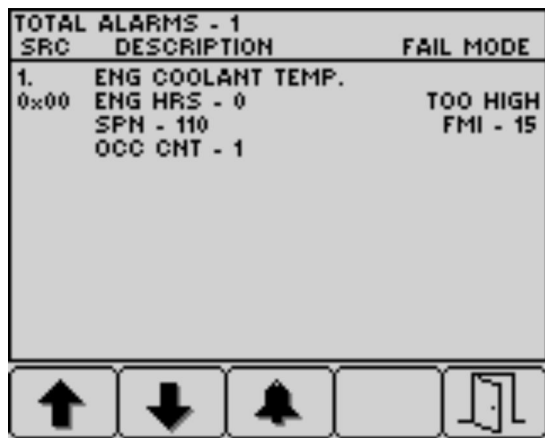

Figure 39
4. Press button 5 to exit the active fault list and return to the home screen (Figure 39).
5. Press button 5 to exit the active fault list and return to the home screen; refer to Figure 39 in Engine Advisories Messages (page 35).